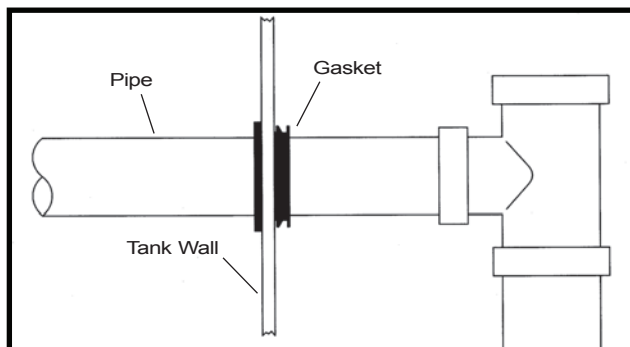

FIG.2 Gasket Detail
- Install provided rubber gasket in inlet and outlet ports. (Fig. 2)